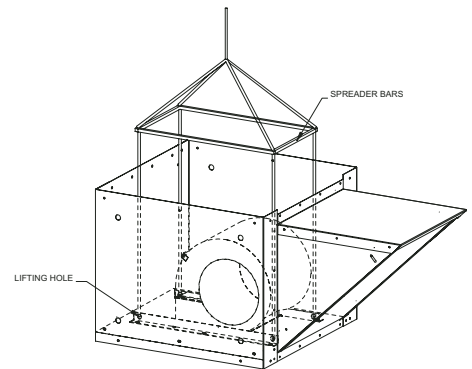

Figure 5 – Lifting Unit
- Use a crane and set of spreader bars hooked to the factory lifting holes (as shown in Figure 5) to lift and center the unit on the curb. Use self-tapping sheet metal screws to fasten unit to the curb.